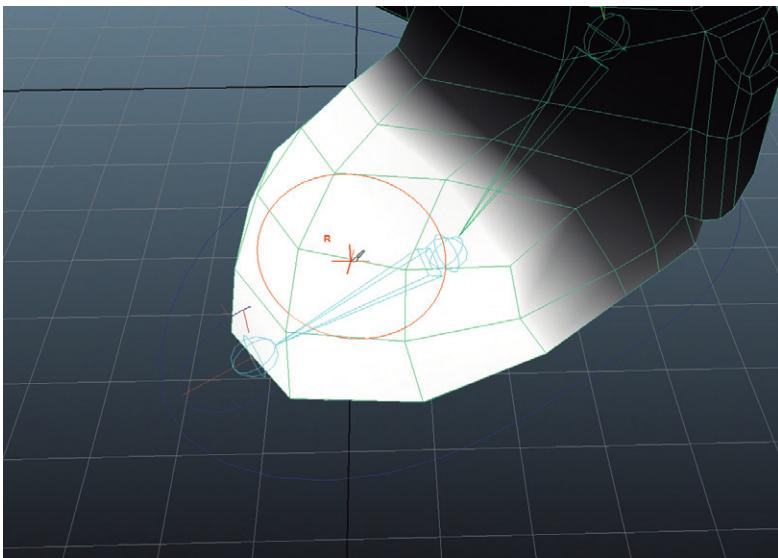

FIG 8.29 Skin weight for the L_Ball.
Step 9: With the Paint Skin Weights Tool active, paint the influence of the L_Ball. Do this by selecting L_Ball in the Influences section and painting (Paint Operation: Replace, Value: 1) from the ball out to the toe to match Fig. 8.29.